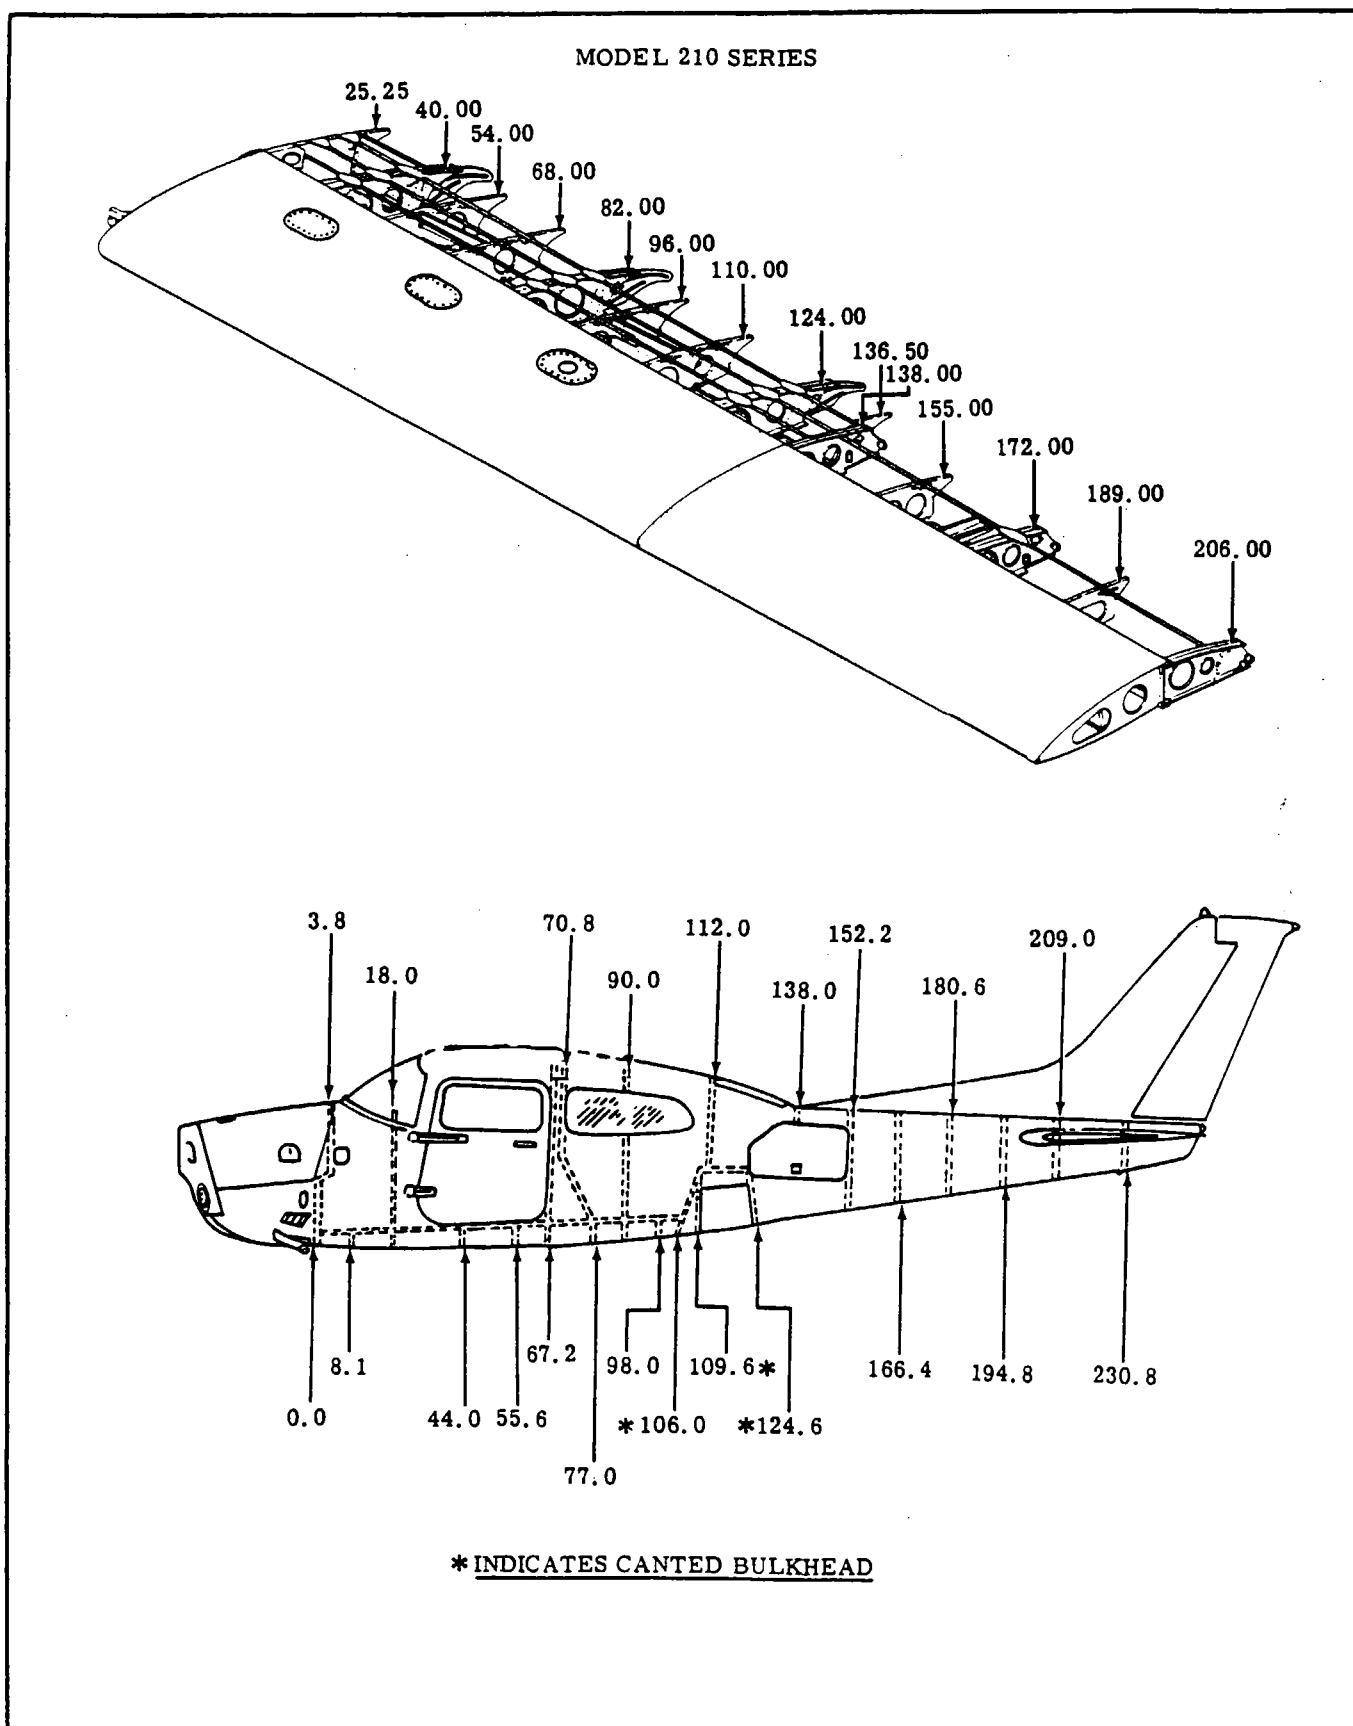

Figure 1-2. Reference Stations
1-5. STATIONS. A station diagram is shown in figure 1-2 to assist in locating equipment when a written description is inadequate or impractical.
2. When using a torque wrench adapter which changes distance from torque wrench drive to adapter drive, the indicated reading must be adjusted for desired torque reading. (See Figure 1-2.)